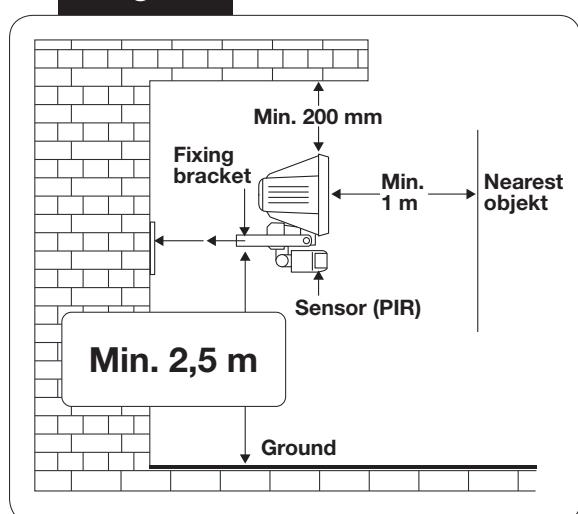

Fig: 2
3. Mark the hole positions for fixing bracket onto the wall. Drill and plug the wall at the marked positions. Screw the fixing bracket to the wall with suitable screw (not supplied). (see Fig. 2)